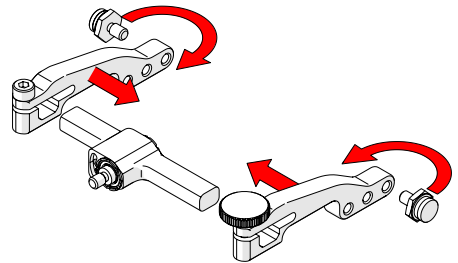

Fig. 73 - Attach arms and move buttons
4. Place the pivot buttons on the inside of the probe holder arms (Fig. 73) using a 3/8 in wrench (Fig. 28). Slide the arms onto the yoke and tighten the probe holder arm adjustment knob and the arm clamp screw.